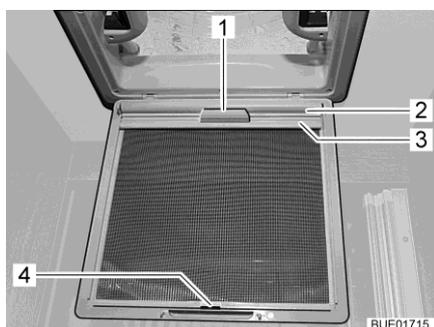

Fig. 106 Blind (skylight)
- Using the handle (Fig. 106,1), pull out the blind (Fig. 106,2) and hook the retainer (Fig. 106,3) into the hook (Fig. 106,4) on the insect screen.
- Release the retainer (Fig. 106,3) from the hook (Fig. 106,4) and, using the handle (Fig. 106,1), slowly return the blind (Fig. 106,2).